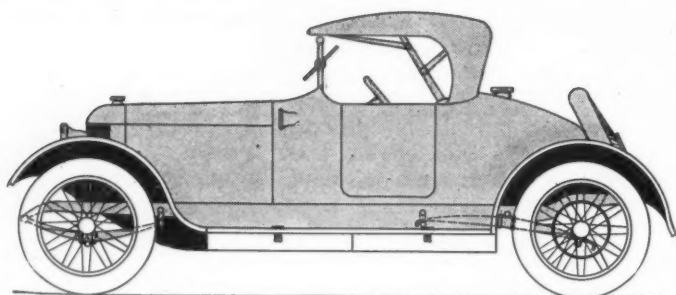
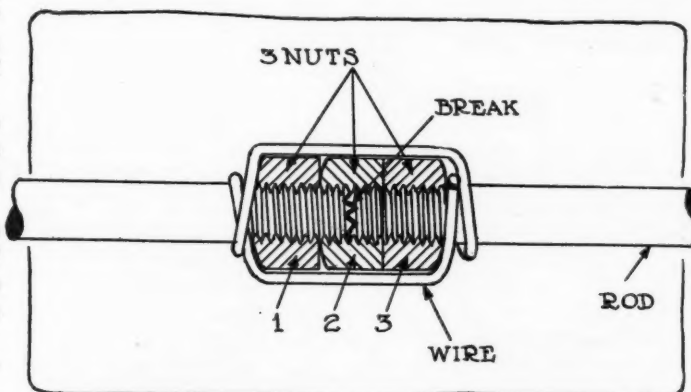

Fig. 1—Ideal car with round-nosed radiator, narrow hood, streamline body and cantilever springs. A unit power plant with four-cylinder motor is employed
Fig. 2—One method of repairing a broken tension rod. It is simple and easily made
Fig. 1 is a diagram of a 4 by 6-inch motor without any offset with the piston at middle position of the stroke. First we must find the downward pressure on the piston at this position due to the explosion and due to the compression. With the motor in question we will assume a clearance volume of 25 per cent. of the piston displacement. This would give a compression of 90.3 pounds per square inch gauge, or 105 pounds absolute. The volume of the clearance space would be 18.84 cubic inches. The volume of space in the cylinder, including the clearance when the piston has completed half the stroke, would be one-half the displacement plus the clearance, or 56.52 cubic inches. In this case we assume the expansion to be adiabatic, or, according to the law  $P_1 V_1^{1.405} = P_2 V_2^{1.405}$  in which  $P_1 V_1$  and  $P_2 V_2$  represent the initial and final volumes and pressures. As the expanding gas gives up heat to the cylinder walls the expansion would not be adiabatic but would be according to the law  $P V^n = a$  contrast with  $N$  equal to some number greater than 1.405, but for want of further data we will assume an adiabatic expansion which will give sufficiently close results.
The pressure in pounds per square inch on the piston when in the position shown in Fig. 1 and on the explosion stroke will be found by the formula:
This pressure, multiplied by the piston area 12.56 square inches, gives 281 pounds total pressure on the piston due to compression at this point. Having found both the pressure due to the explosion and that due to the compression we may now find what side thrust they will produce with different amounts of offset. Referring to Fig. 1, which is the diagram of an engine without offset, it will be seen that the explosion pressure acting vertically downwards will produce two forces, one in the direction of the connecting-rod and the other directly against the cylinder wall in a horizontal direction; as shown by the arrow. On the left of the figure this force is represented by the line  $P$  which represents the force in direction and magnitude, the scale being 1 inch in length representing 160 pounds. The thrust will be represented by the line  $T$  drawn from the top of  $P$  and limited in length by the line  $F$  drawn from the lower end of  $P$ , making the same angle with it that the connecting-rod makes with the vertical center line. The length of the line  $T$  represents the side thrust.
Fig. 2 shows an engine with an offset of .75 inch. From the force diagrams of the figure we find the thrust due to explosion to be 168 pounds and that due to compression 102 pounds. From this figure it is seen that the thrusts are more nearly equal.
Fig. 1—The total pressure in pounds per square inch on the piston in this position is 804 pounds. Fig. 2—An engine with an offset of .75 inch. The thrusts are more nearly equal. Fig. 3—An excessive offsetting of the same engine of 1.5 inches. It is not good practice to use more than .75 inch offset.
**Editor THE AUTOMOBILE:**—Noting the interest that has developed lately in the question of what is an ideal car, especially since the S. A. E. has taken the subject up, I would like to give you my idea. I agree with them that the ultimate car must have a light four-cylinder motor, about 4 by 7 inches, unit power plant, worm drive and cantilever rear springs but I do not approve of the type of body. It looks clumsy and is not practical. My idea of how the ideal body should look is shown in Fig. 1. It will be noted that the car has a rounding radiator, narrow hood to cut the wind, high sides to protect the occupants from dust, and a high turtle-back, in which is carried the gasoline tank and also there is space for the tools and spare tubes. Back of this is the extra wheel.
**Editor THE AUTOMOBILE:**—Whenever tension or other rods break when you are out on the road, and you feel that you are up against it, try and recall this handy little repair scheme. If you have a die set handy, or if you can get hold of one, a tension rod can be patched as indicated in Fig. 2 by the use of three nuts and a piece of wire.